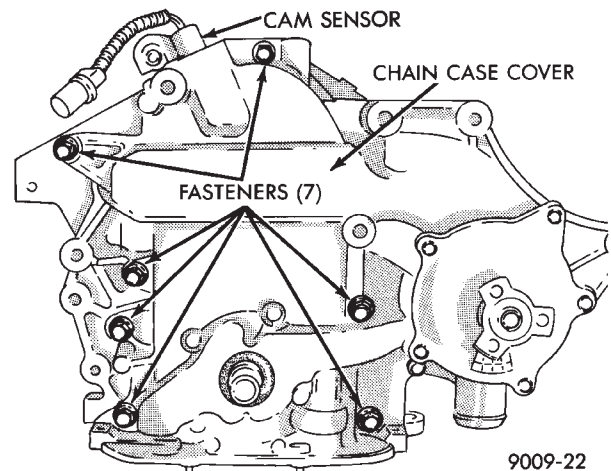

Fig. 3 Timing Chain Case Cover
- (13) Remove cam sensor from chain case cover. (Fig. 3)
- (14) Remove chain case cover (Fig. 3)